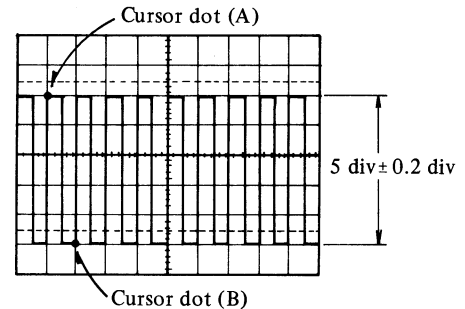

Fig. 6-5
- (1) Select CH1 vertical deflection. Set the sensitivity at 10 mV/div. VAR at CAL detent. Select DC position with AC-GND-DC switch.
- (2) Align the base line of the trace to the center of the second horizontal scale line from the bottom by adjusting the V. POSITION control.
- (3) Set the VOLTS and CURSOR buttons. Move the cursor dots and set them as Fig. 6-5 by operating DEC/INC switch.